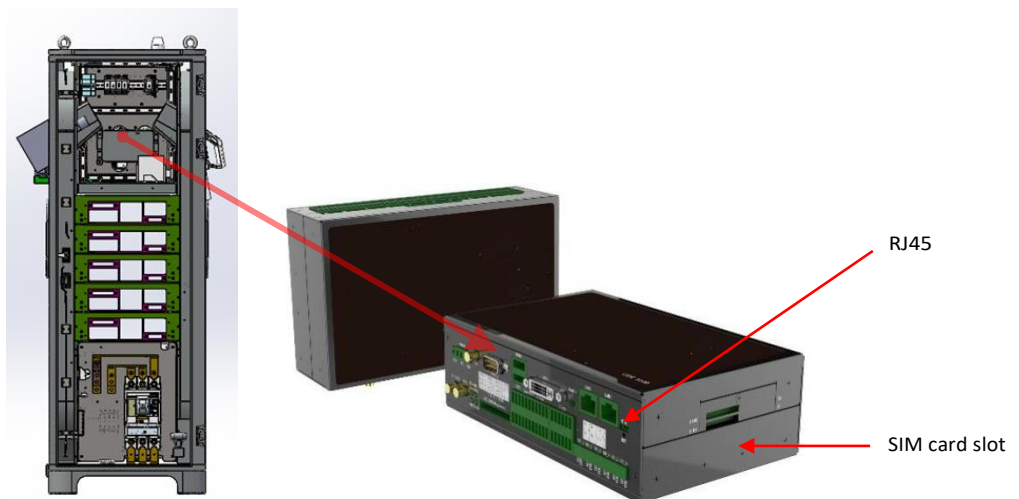

Figure 4.6.4
- In case that the station will be connected with a LAN cable for the backend connection, this cable should be laid through waterproof gland on the bottom to the RJ45 Port on the A8 communication board, shown in Figure 4.6.4. (it's suggested to use such soft flat LAN cable like in figure because of the limited place for installation. Any other RJ45 converter in the charger could be installed by customer if needed)
- In case that the station connects with backend through SIM card, the SIM card slot shown in Figure 4.6.4 can be used. (only for standard SIM card size 15x25mm)